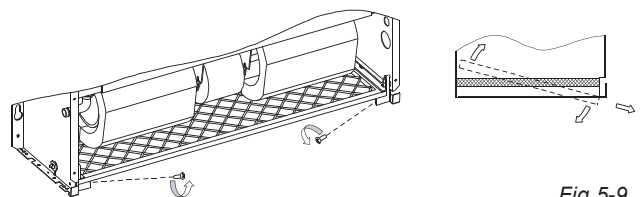

Fig.5-9
- 1) Upright row (non-directional) one side of the inlet grille, and put down the other side, and then slide follow the arrow's direction refers to Fig.5-9